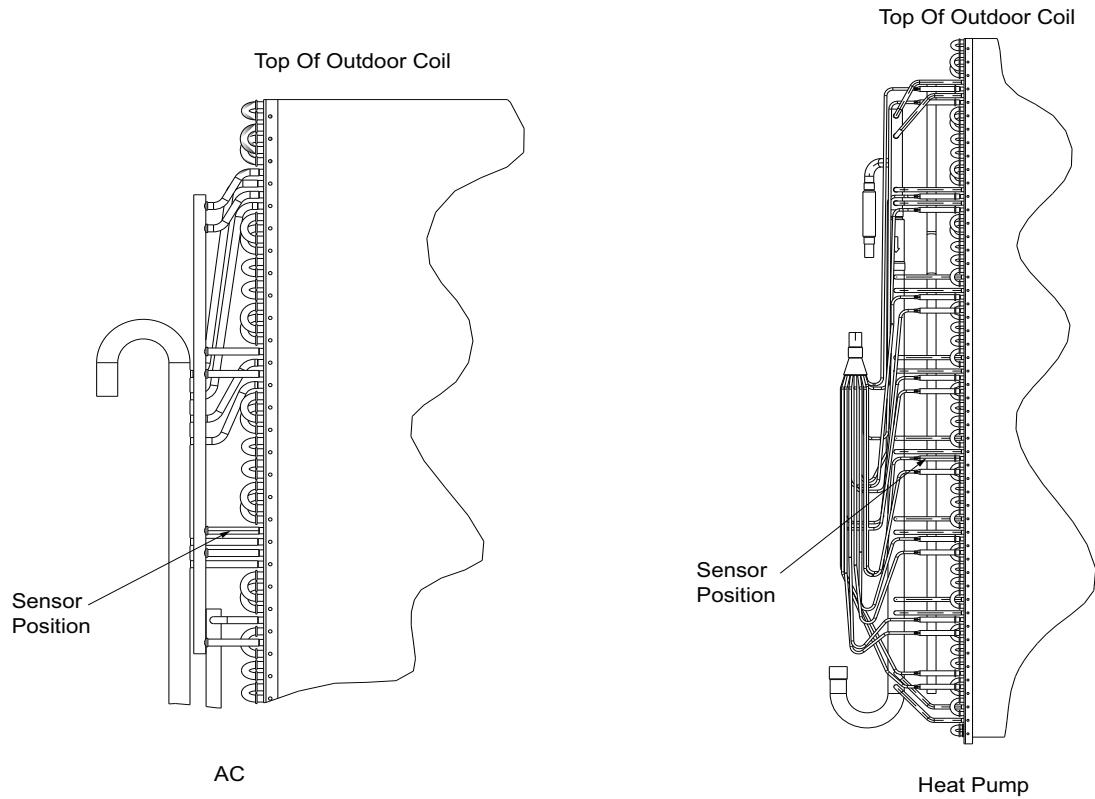

Fig. 14 — Cabinet B — Sensor Locations
14. Install the controller's sensor on the outdoor condenser coil. (See Fig. 14.) When installing the sensor, use the included 2 in. insulation tape and wire tie to secure the sensor to the coil header.